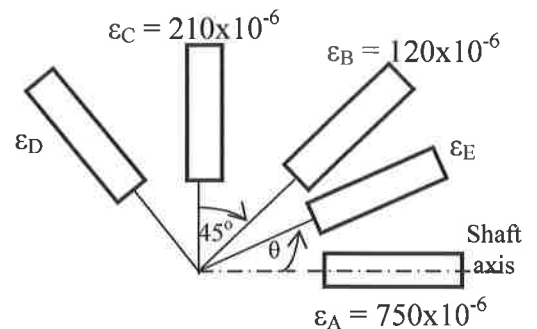

Figure Q5
5. Five strain gauges are attached to the surface of a machine component and the readings are as indicated in Figure Q5.